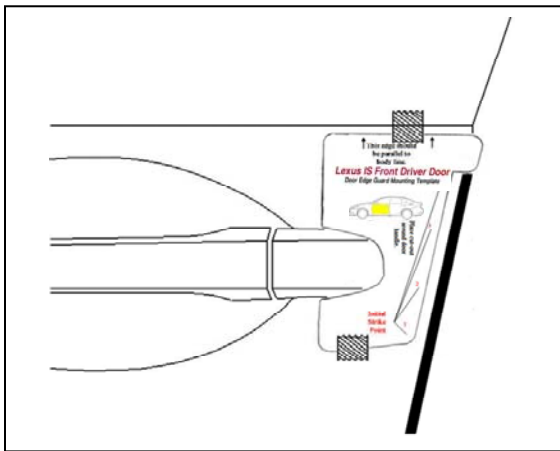

Fig. 2-4
- (ii) Align top edge of DEG (labeled Front Driver with Pink sticker) with lower edge of template alignment notch as shown. (Fig 2-4)